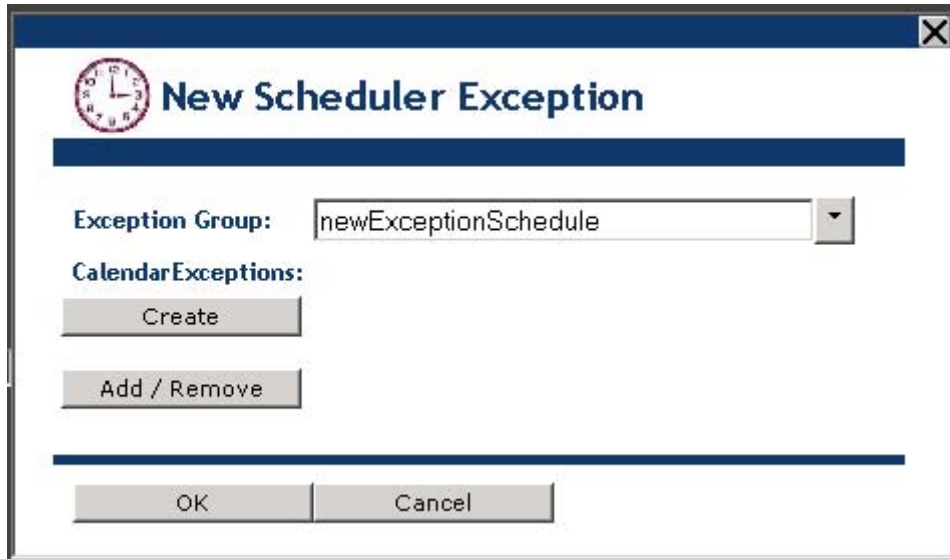

Figure 6.9 New Scheduler Exception Dialog
2. Right-click the calendar on the right pane of the Web page, and select **New Exception** from the shortcut menu. The dialog shown in Figure 6.9 opens.